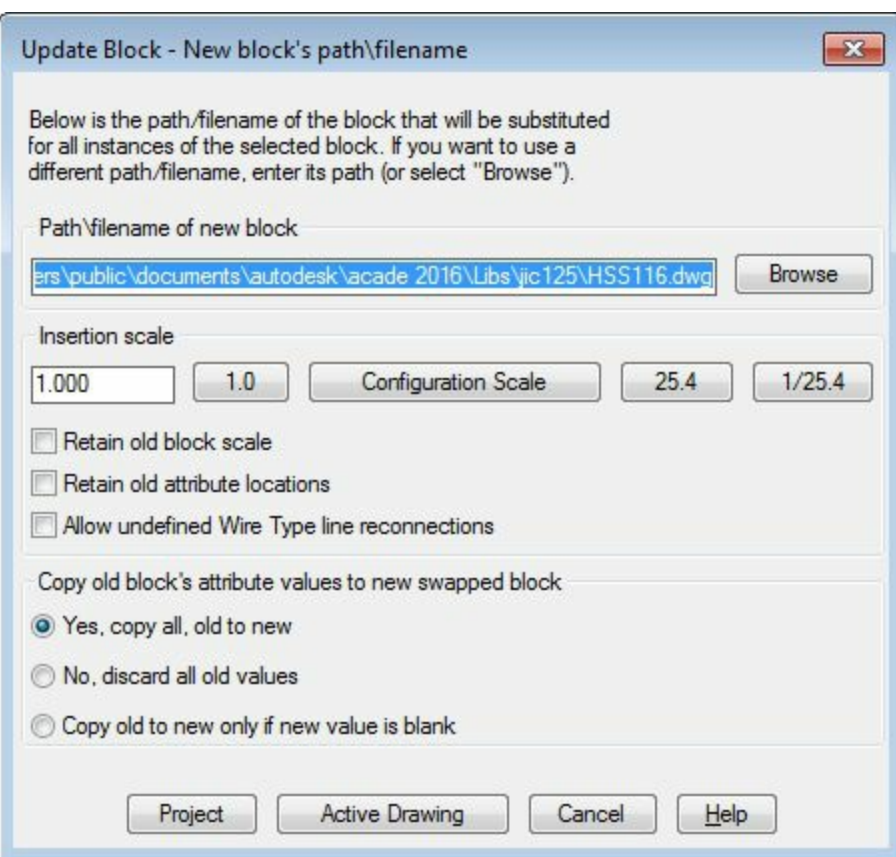

Figure-39. Update Block dialog box
- If you selected the **Update a Block** radio button then you will be prompted to select an example of block. Select the block of component(or component) from the drawing area and press **ENTER**. The **Update Block** dialog box will be displayed; refer to Figure-39. Click on the **Browse** button and select the desired component block. Click on the **Project** button if you want to update the block for all project drawings or click on the **Active Drawing** button to update the block in current drawing only.